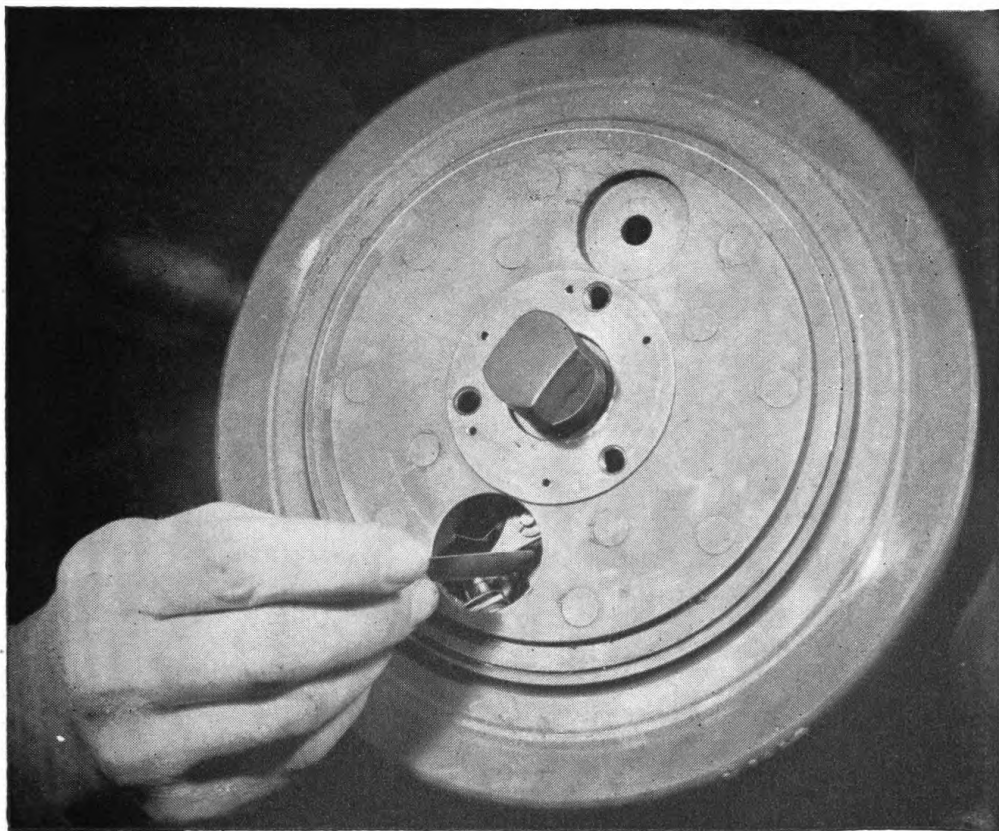

Figure 53. Checking ignition-point gap with gap gauge.
e. CLEANING AND ADJUSTING BREAKER POINTS. (1) Examine points by removing starter-rope drum and inspecting points through inspection hole. Points should be clean and not pitted. Clean with a fine sandpaper (not emery). The flex-stone listed in first echelon spare parts may be used. Fold paper double and draw it back and forth between points. If points are in bad condition, replace them.
(2) No wrenches are needed for adjusting point gap. Points are set through inspection hole in flywheel. Adjust points with a screw driver (see fig. 51) by loosening screw on breaker plate (see C, fig. 52), then shifting plate until maximum clearance of .020 inch is reached. Gap gauge is furnished with operating kit. Use gauge as shown in figure 53. Replace starter-rope drum.